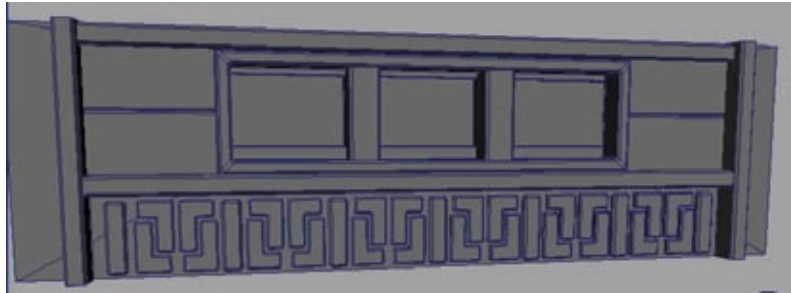

Figure 5.22
10. You can grab the window details from the first window block module to use in the second. Simply resize them to fit the window cavity and you're done (Figure 5.22)!